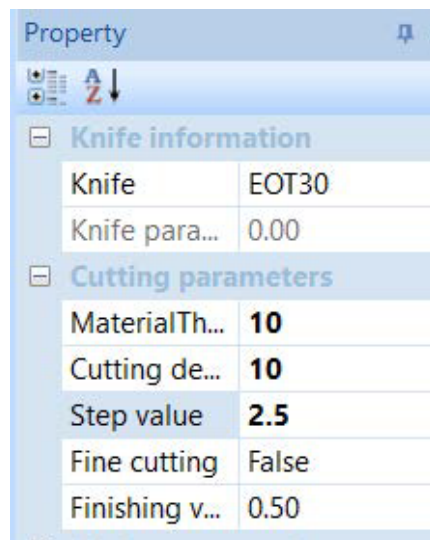

Figure 4.13
- Stepping [Figure 4.13 on next page]: